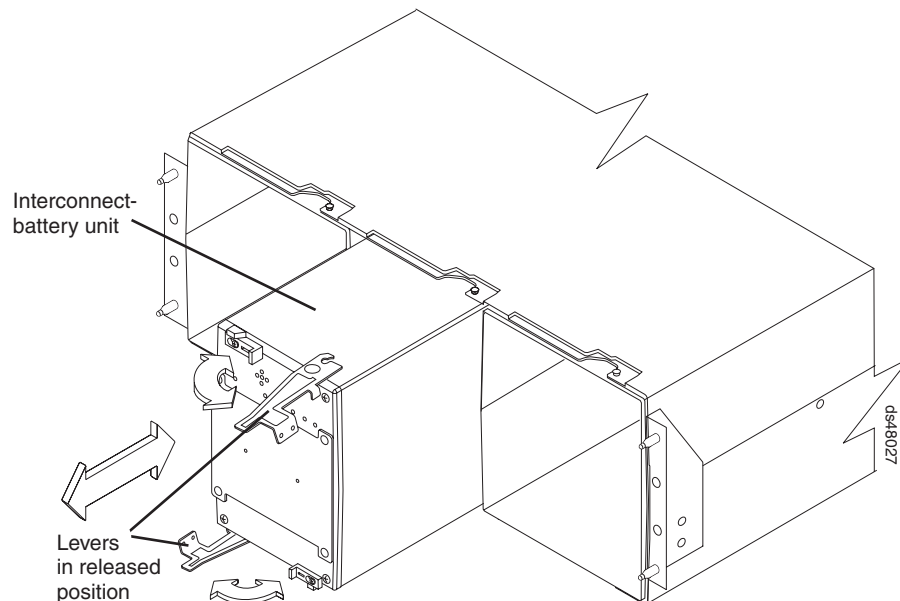

Figure 18. Removing the interconnect-battery unit
4. Remove the interconnect-battery unit. Figure 18 shows the location of the interconnect-battery unit and the interconnect-battery unit levers.